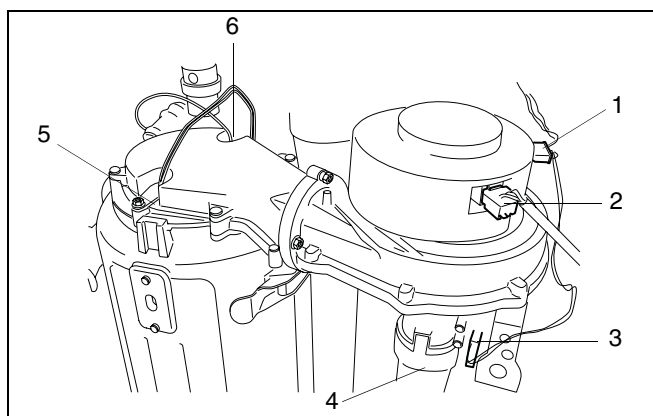

fig. 59 Remove connectors of the gas air unit
- Remove the connectors (fig. 59, item 1, 2 and 3) from the gas air unit.
- Remove the air silencer from the gas air unit (fig. 59, item 4).
- Then remove the connectors of the ionisation electrode (fig. 59, item 6) and the glow ignitor (fig. 59, item 5).